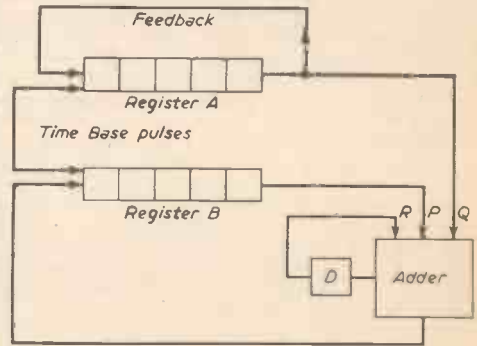

Fig. 11.—Circuit for multiplication.
Look at Fig. 11; this shows how we can use shifting registers to multiply. In this set up we use two registers A and B. In A we set up one of the numbers which we want to multiply, while B contains all 0's. We then start the time base pulses and feed the outputs of the registers into the (P) and (Q) terminals of our adder. After five pulses the number in A will have been added into B, while the feedback will have brought the original number back to its starting place in A. During the next five pulses the contents of A will be added to the contents of B, thus giving twice the original number in B. During the next five pulses the same will happen again when three times the original number will appear in B, and so on. When the original number has been added to itself the required amount of times, the pulses are switched off and the answer is found in register B.